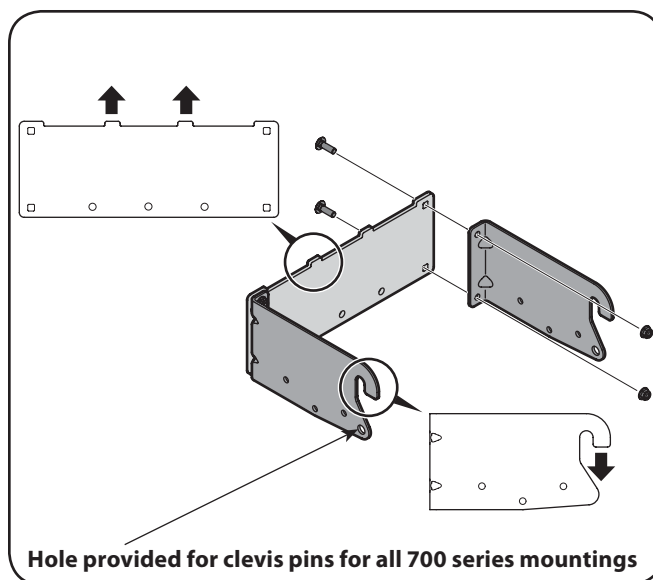

Figure 3-3
1. Attach the two hitch side brackets to the universal rear attachment bracket using four hex bolts and flange lock nuts. With the hooks on the hitch side brackets pointing down, the tabs on the universal rear attachment bracket should be pointing upwards. See Fig. 3-3.
**Note:** Install the two included clevis pins through the mounting assembly and secure to the 700 series mounting brackets installed earlier with click pins provided in the hardware pack. Refer back to Fig. 3-3.